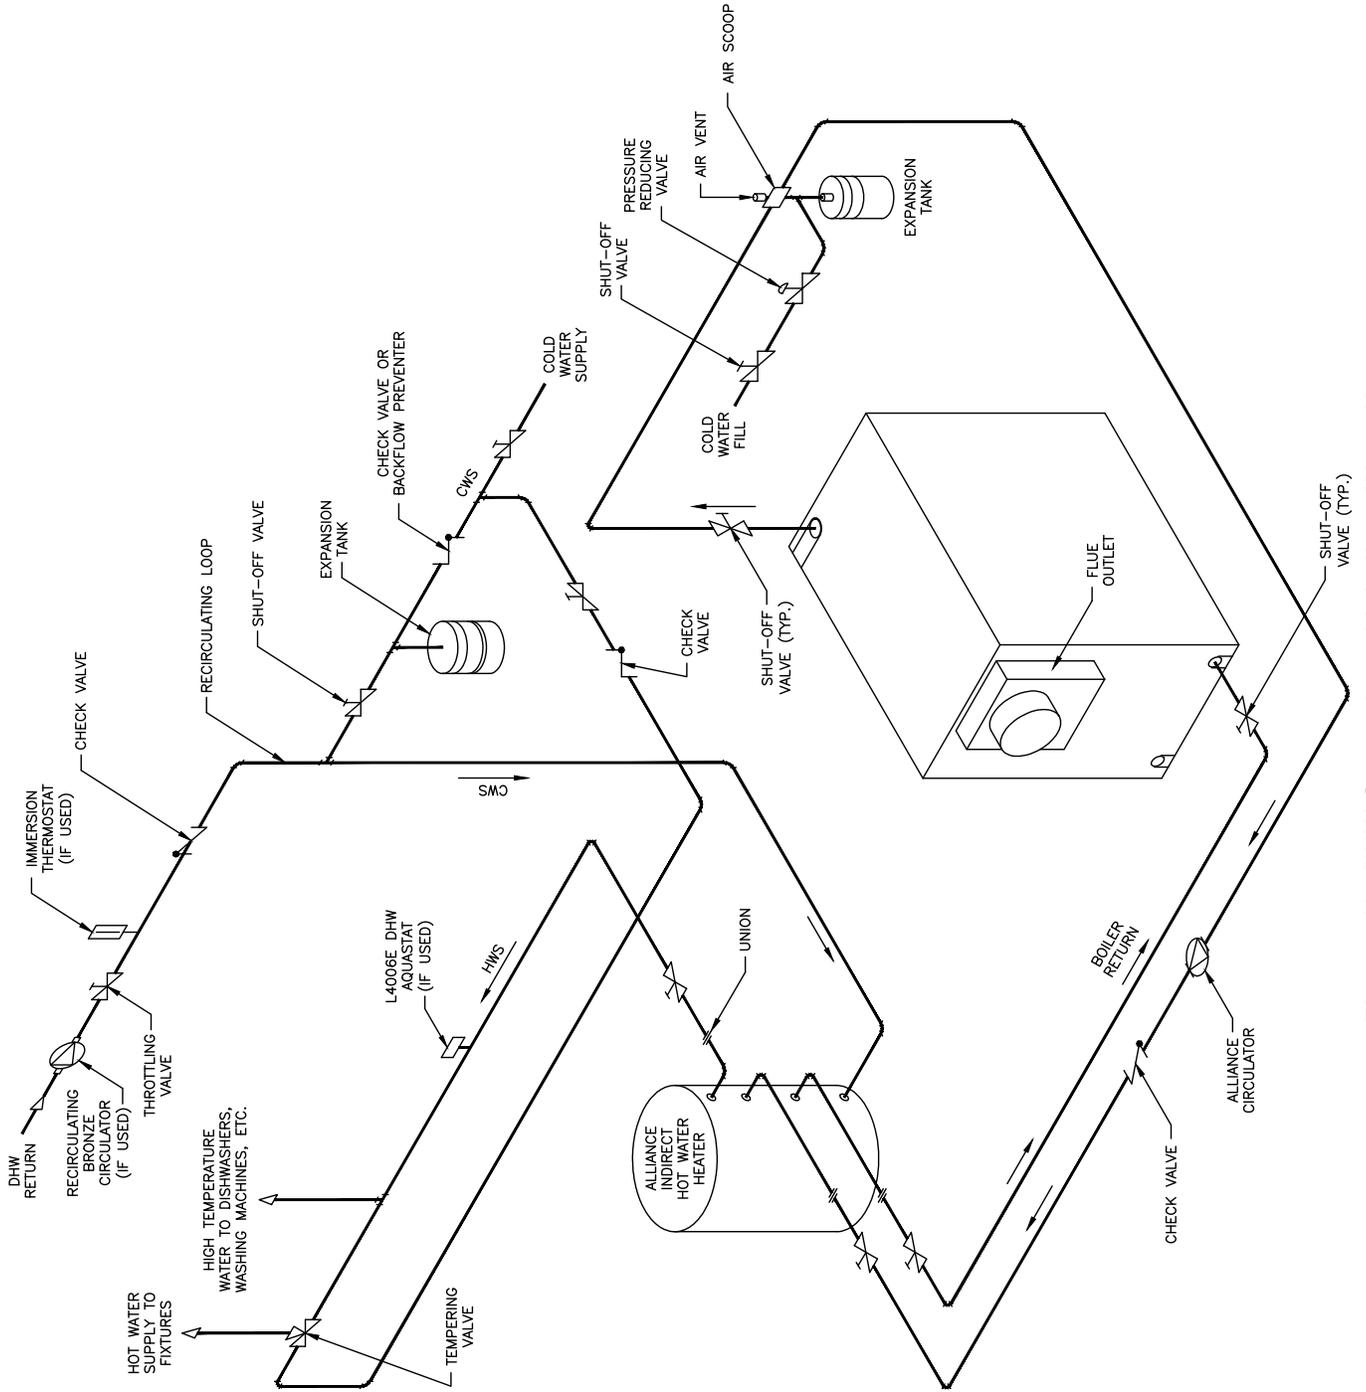

Figure 42b: DHW Generation with Indirect Water Heater
3. Hot Water Boiler/Indirect Water Heater - The use of indirect water heaters for domestic hot water generation is common and somewhat advantageous over tankless coils alone, since they also provide DHW storage. A tempering valve and recirculating pump are again recommended for a dual temperature system, to provide a constant temperature to the fixtures without waiting for cooler water to warm up. Figure 42b shows a typical indirect heater piping application with no space heating. Indirect pump flow rates are calculated based on a 20°FΔT.